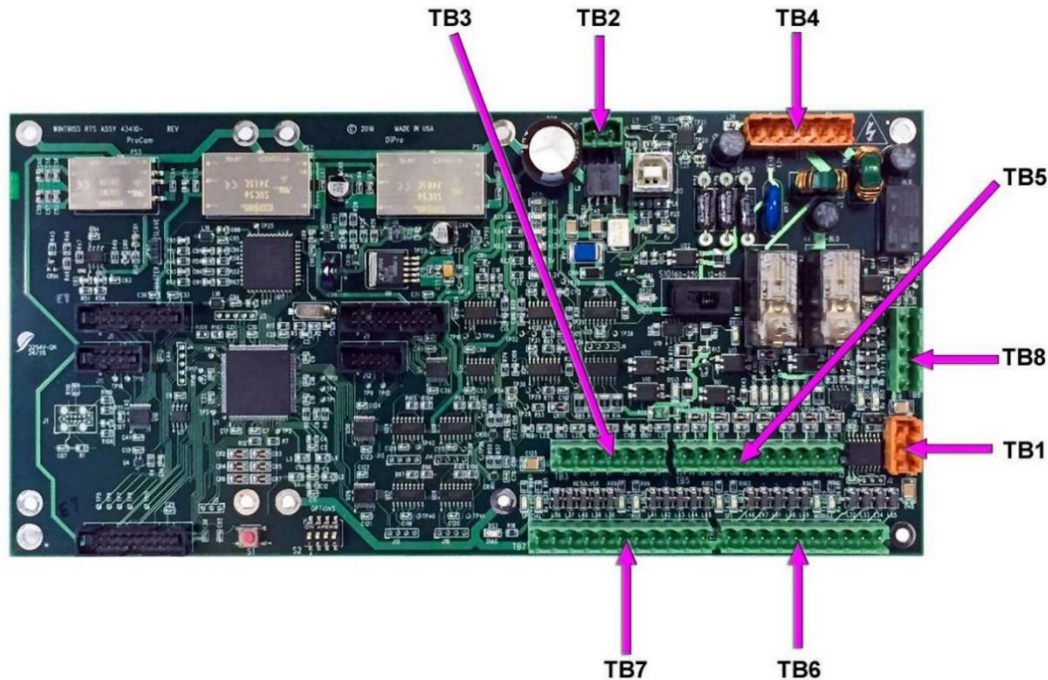

Figure 2-6. Location of Terminal Blocks TB1 through TB8
3. Find the resolver connector TB-3 on the SmartPAC PRO board (see Figure 2-6, page 25).